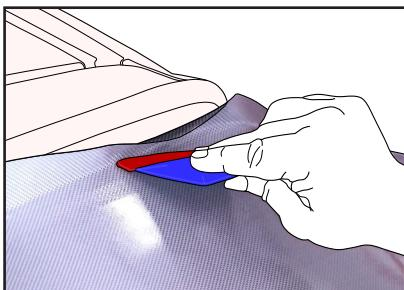

Figure 20
- › Apply the film up to the edge of the window with the squeegee without exerting any pressure. (FIG. 20)